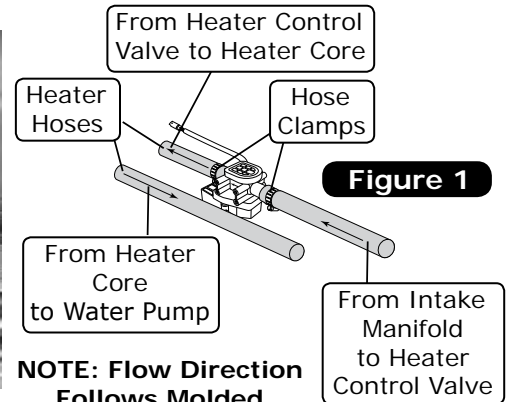

Figure 1
1. Cut the upper heater hose approximately 4 to 5 inches from the fresh air cap (See Photo 1, below). Install the heater control valve and secure using a hose clamp (See Photo 2, below). **NOTE: Ensure proper flow direction through the heater control valve. The flow direction follows the molded arrow on the valve (See Figure 1, below).**